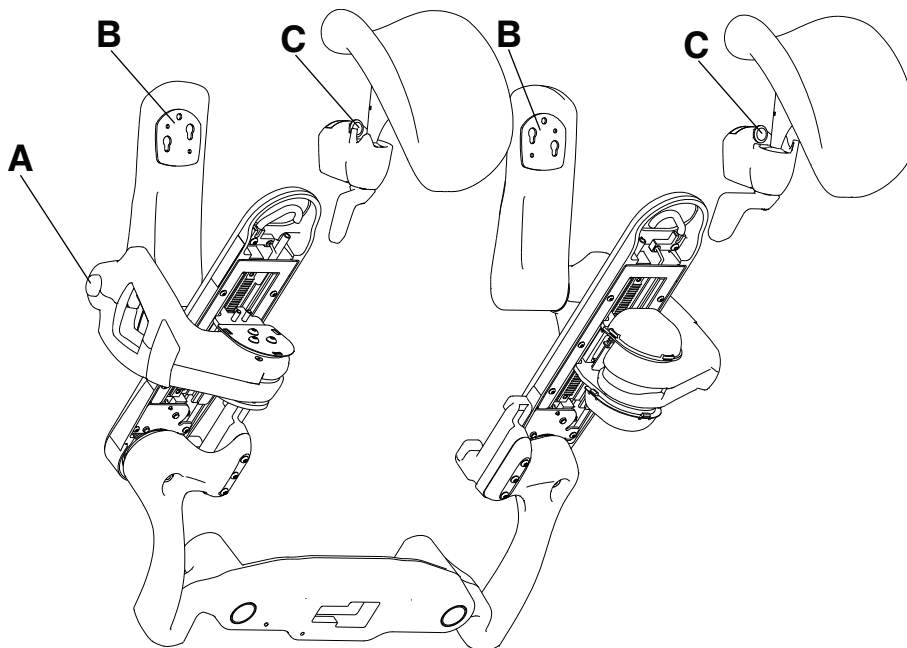

Figure 1-25: Attaching the calf supports
3. Push the purple button and pivot the footrest into the full upright position (A) (Figure 1-25 on page 1-29).
1. Pull the pull knob (C) (Figure 1-25 on page 1-29).
3. Lower the calf support into the footrest plate (B) (Figure 1-25 on page 1-29).
3. Lift the calf support off of the footrest plate (B) (Figure 1-25 on page 1-29).